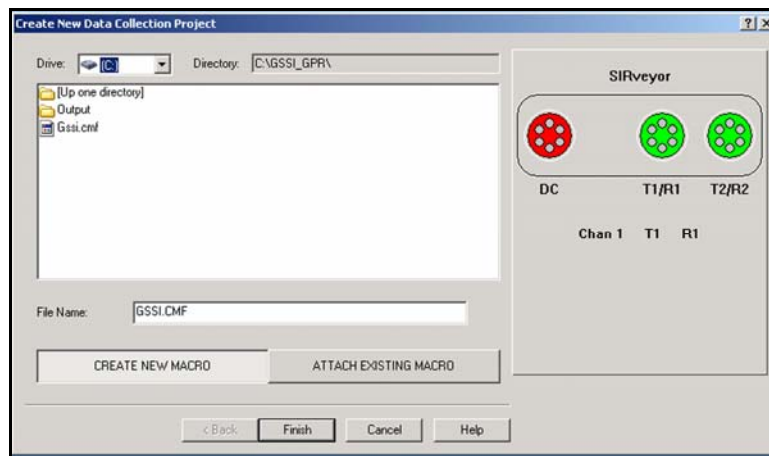

Figure 30: Attach a Macro or Create a New One.
- For example, if you are scanning a concrete slab to find reinforcing bars, choose CONCRETE. Then choose your antenna type under Config Name (2). An “X” after the name is used to denote a cross-polarized antenna that is used 90 degrees to its normal orientation. Common data collection parameters will be automatically set.
- 8 Check to make sure that Scans/ft (7) is adequate for your application. The general rule is the more scans/unit that you collect, the slower your collection speed, the larger your data file, and the more “stretched” your file will appear. When you are finished, click Next >.
- 9 The next window (Figure 30) will prompt you to either create a new macro, or attach one that you have already created. A macro is nothing more than a saved list of data collection parameters. These parameters include: filters, time range and gain settings. These will vary from job to job, so it is possible you will have many different macros for different survey objectives.